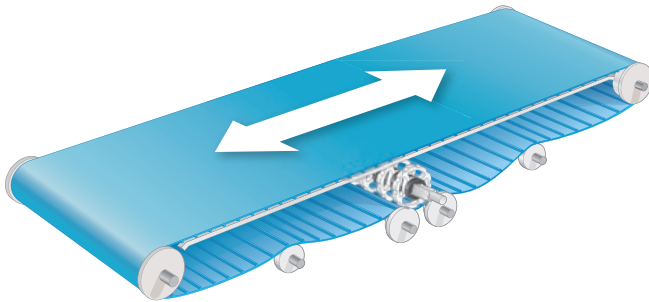

Figure 17
- Use a center drive sprocket with a minimum of 10 teeth (Figure 17).
- Use roller limiters for center drive applications (Figure 17).